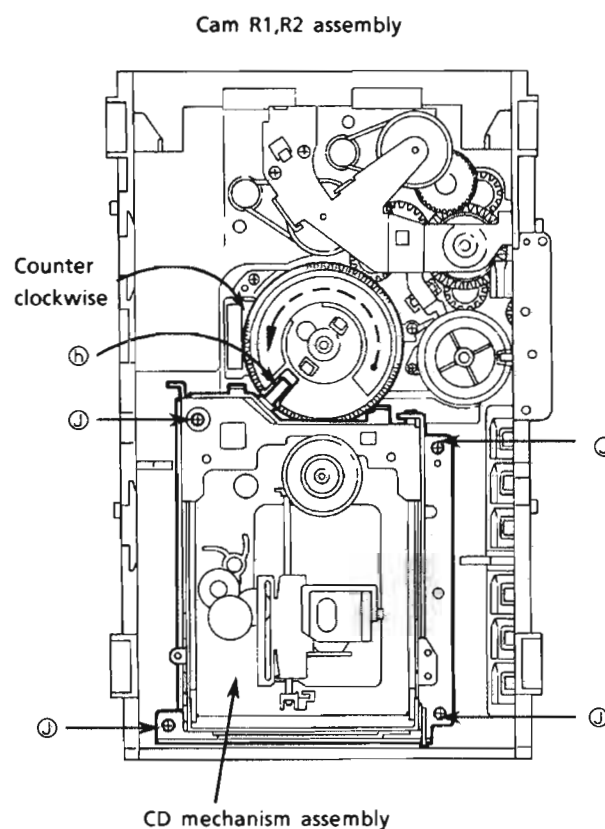

Fig. 36
2. Rotate the Cam R1, R2 ass'y counterclockwise so that CD mech. ass'y's shaft ⑥ is positioned as shown in Fig. 36.
3. Remove 4 screws ① securing CD mech. ass'y. (See Fig. 36.)